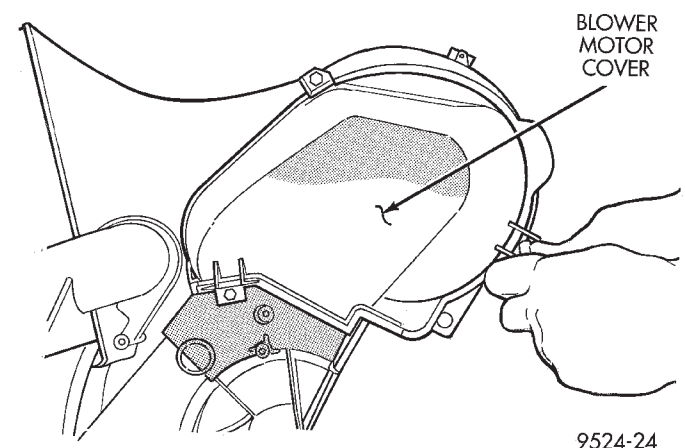

Fig. 47 Blower Motor Cover
- (3) Remove blower motor cover (Fig. 47).